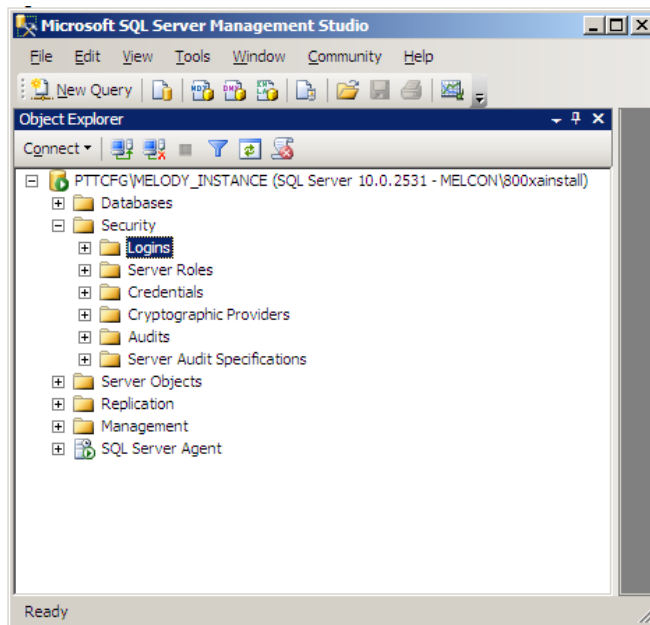

Figure 41. Microsoft SQL Server Management Studio Dialog Box
3. Expand the listing to view the `Security\Logins` in the Microsoft SQL Server Management Studio dialog box (Figure 41).